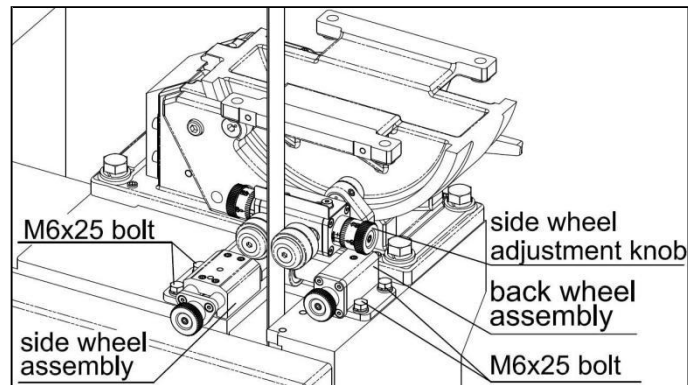

Fig. 8-9
2. As shown in Fig. 8-9, rotate both side wheel adjustment knobs (located on either side of the lower blade guide) clockwise until they stop.
1. As shown in Fig. 8-9, loosen the two M6 bolts on the back wheel assembly.